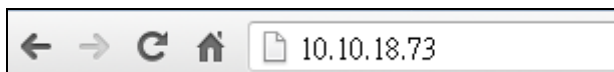

Figure 4-27: IEI iMAN Web Address
Step 2: On the remote management console, open a web browser. Enter the managed system IP address in the web browser (Figure 4-27).